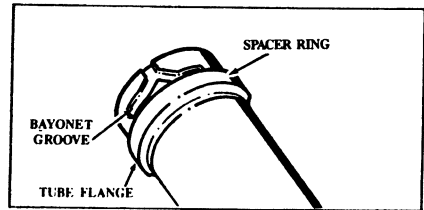

Figure 8
6. Slide the Spacer Ring over the upper end of the Vacuum Tube until it is positioned between the lower end of the slot (bayonet groove) and the Tube Flange. Figure 8.
3. Slide the Spacer Ring over the upper end of the Vacuum Tube until it is positioned between the lower end of the slot (bayonet groove) and the Tube Flange. Figure 8.